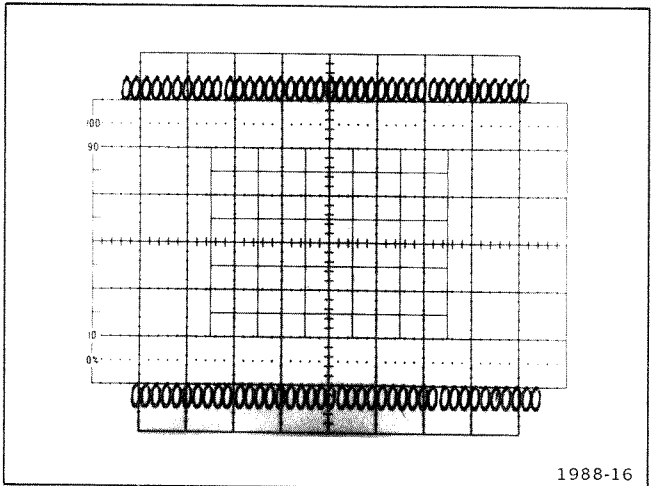

Figure 5-2. Readout display with Q3416 removed.
d. Check the crt display for two rows of zeros, 40 zeros to a row with no overlap. The two rows of zeros should be located vertically between 0.5 and 1 division of the top and bottom graticule line (see Figure 5-2).